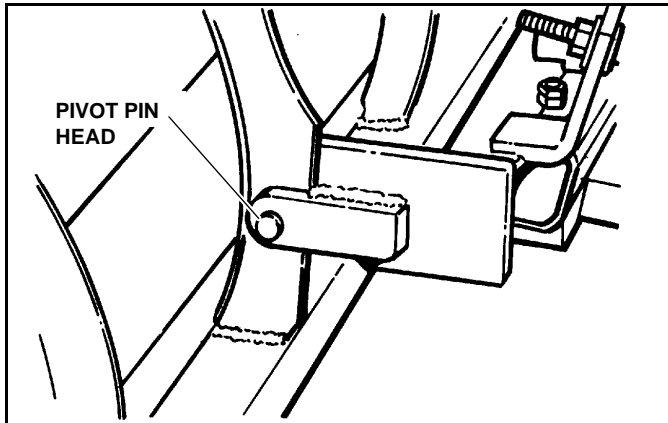

Figure 1-9
3. Align inside snow Plow blade ribs with power pack swing frame end lugs. Align holes in both blade rib and end lug and insert pivot pins removed in Step 29. (See Figure 1-9)